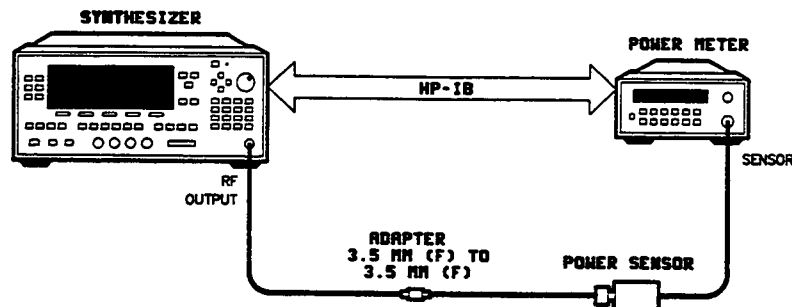

Figure 2-6. Power Flatness Test Setup
1. Turn on the equipment shown in figure 2-6. Connect the power sensor for the frequency range being calibrated. Do not connect the power sensor to the synthesizer yet. Preset all instruments and let them warm up for at least one hour.
Connect the power sensor to the synthesizer's RF OUTPUT as shown in figure 2-6.